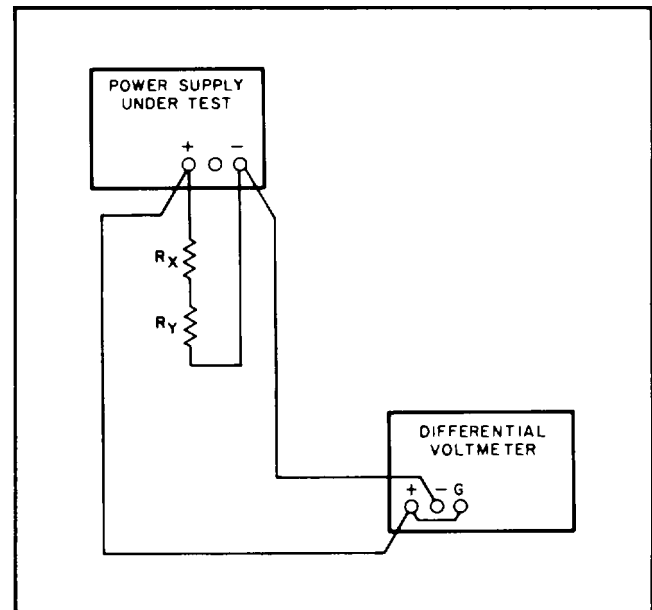

Figure 5-5. Load Regulation, Test Setup
a. Connect test setup as shown in Figure 5-5.
c. Connect test setup shown in Figure 5-5.
- Connect test setup shown in Figure 5-5.
- a. Connect test setup shown in Figure 5-5.